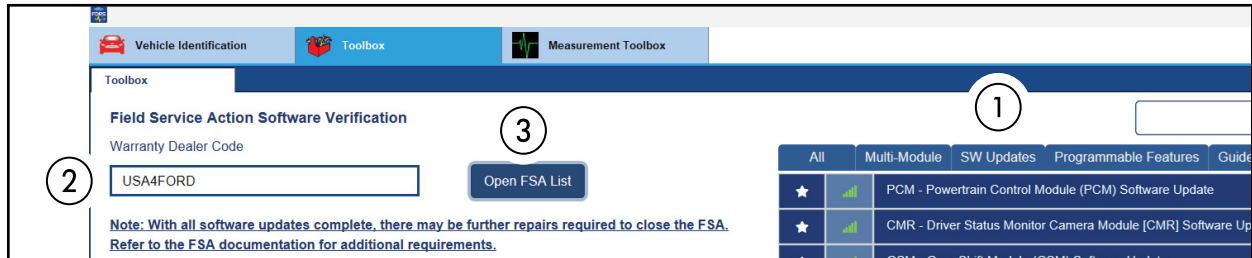

FIGURE 1
15. Select the **SW Updates** tab (1). See Figure 1.
16. **Warranty Dealer Code** (2) - Change the displayed PA code as necessary. See Figure 1.
17. Select the **Open FSA List button** (3). See Figure 1.